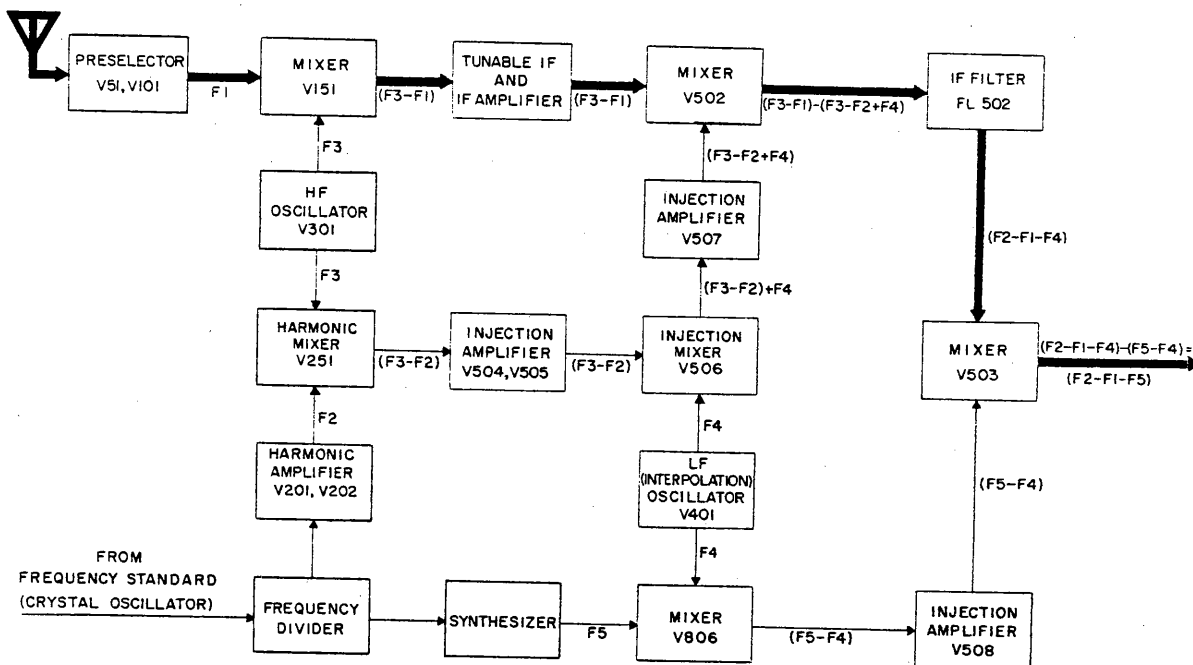

Figure 4-53. Receiver Drift Cancellation, Block Diagram
Connectors for external cabling and interdrawer lines between the demodulator and converter are mounted on two nonconducting strips, called blisters, one each on the converter and demodulator. Figure 4-53 shows all input lines which pass through the blisters. The demodulator blister contains also filters FL1801 through FL1803. The first two are low-pass filters used in the output lines of the detector-amplifier sections; FL1803 is a radio-frequency filter used in the primary ac power line.
(See figure 4-53.)
a. GENERAL.—Circuit loops ensure the operating stability of the receiver by nullifying the effects of drift in the high-frequency oscillator (V301) and the interpolation oscillator (V401). Figure 4-53 is a block diagram showing the relationship of the two loops.